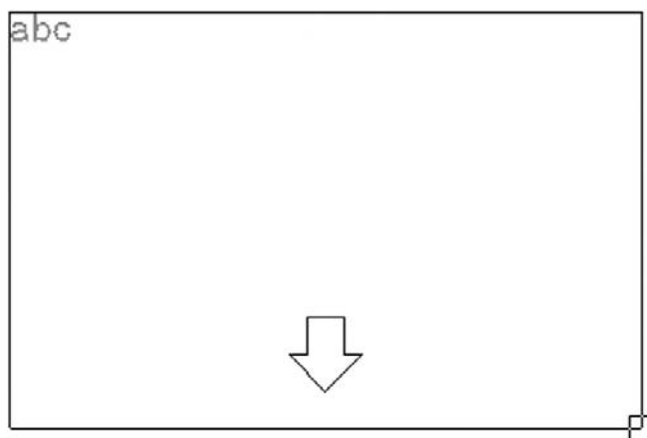

FIGURE 4.3
Step 2. Left-click anywhere on the screen, noticing the abc next to the crosshairs. A rectangle with an arrow appears, as shown in Figure 4.3. Continue to move your mouse down and across to the right, making the rectangle bigger. This is your text field; make it as large or small as you need it to be to hold all the text. As you do this,